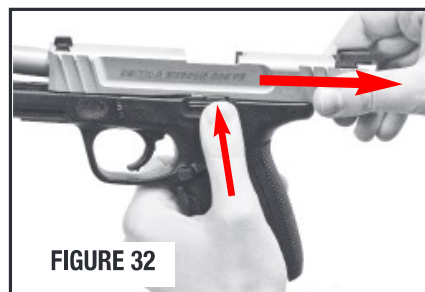

FIGURE 32
- Lock the slide in the open position by allowing the slide to move slightly forward from the rearmost position while pressing upward on the slide stop (FIGURE 32).